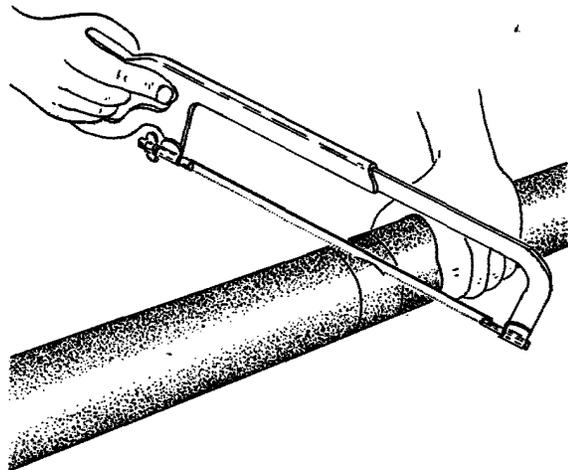

Fig. 28
- (b) Using a fine tooth hacksaw, carefully saw through the section of sheath which has been parted from the cable in the previous operation, cutting at a 45 degree angle to the center line of the cable as shown in Fig. 28. Make certain that the saw does not cut through the insulating skin as this would permit chips of aluminum to enter the cable interior.